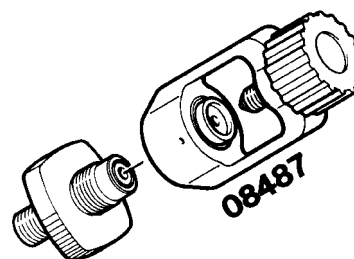

Fig. 8 International filling connector
- Air bottles with international filling connector can be connected with filling adaptor (part no. 08487) to the German filling connector (see Fig. 8).